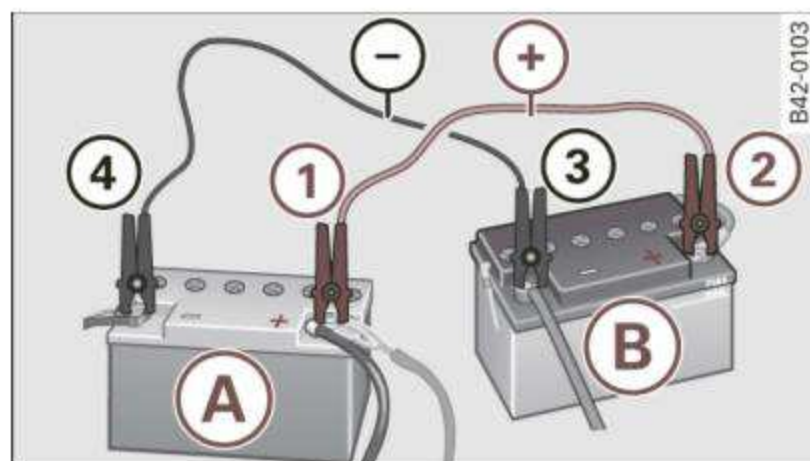

Fig. 136 Jump start using the battery in another vehicle: A - Discharge, B - Female socket
1. Connect one end of the red jumper cable ⇒ *fig. 136* ① to the positive terminal of discharged battery (A).
2. Connect the other end of the red jumper cable to the positive terminal ② of the booster battery (B).